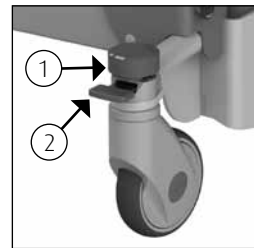

Figure 3 Directional wheel.
- The standard Elexo XXL comes with a swivel wheel that is fitted to the left front side of the device (See figure 3). The direction of the wheel can be blocked by pushing the grey cap (1) on the wheel downwards. This makes it easier to push the device over long distances as the chair is less inclined to move sideways.
- In order to remove the blocking, the lip (2) on the wheel must be pushed downwards.